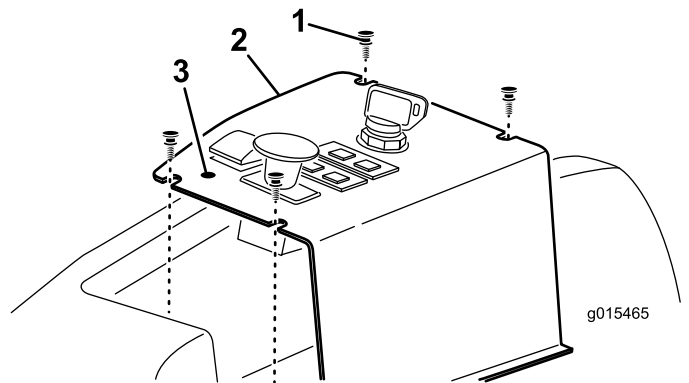

Figure 12
- Carefully locate and puncture the control-panel decal, in front of the LIFT switch, to expose the mounting hole for the LIFT-LOCK lever (Figure 12).
1. Mounting screw (4) 3. Mounting hole
- Remove the 4 screws securing the control panel to the machine (Figure 12).